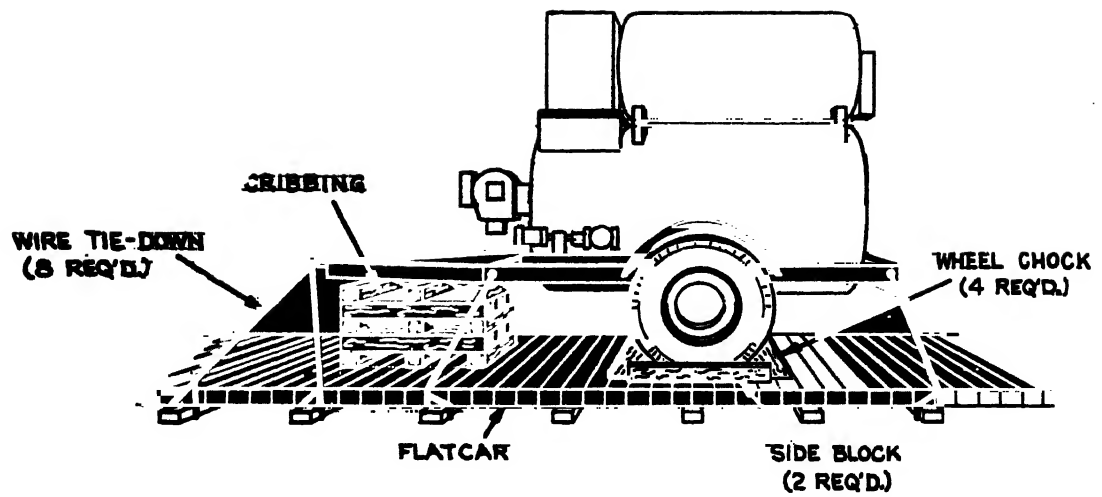

FIGURE 6. HEATER ON FLAT CAR, BLOCKED AND CRIBBED
1. **Blocking and tiedown removal.** The operator and organizational maintenance personnel will remove tiedown cables, strapping, blocking, cribbing, and other items used for securing the equipment during rail shipment. (Figure 6).